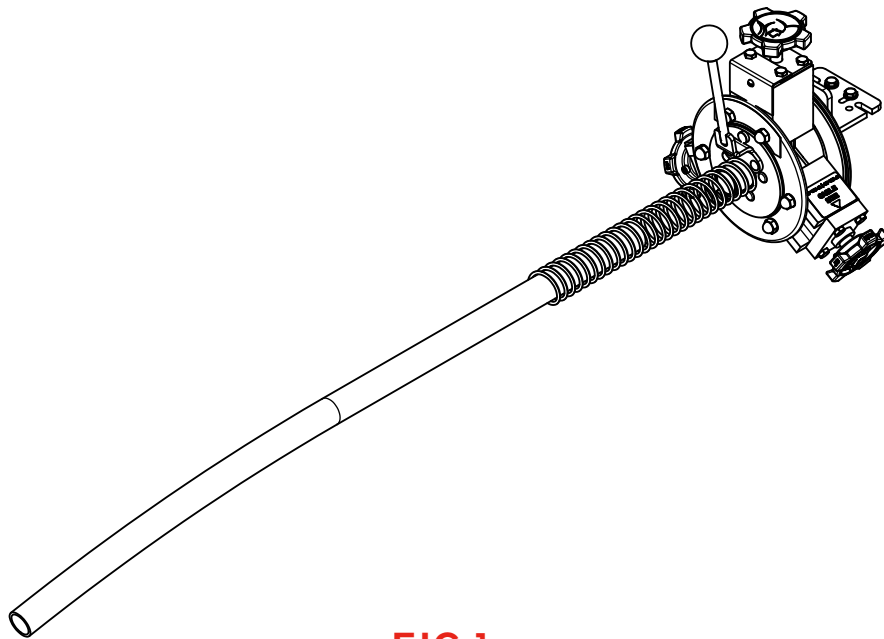

FIG 1
Spartan Tool, LLC strongly recommends the use of a Spartan Cable Safety Guide (44225300) with the Power Cable Feed unit (see Fig. 1). The Cable Safety Guide attaches to the front of the Power Feed unit, and is intended to help protect the operator from possible cable buckling and other hazards associated with handling rotating cable. Contact Spartan Tool, LLC at (800) 435-3866 or www.SpartanTool.com with questions regarding the Cable Safety Guide.